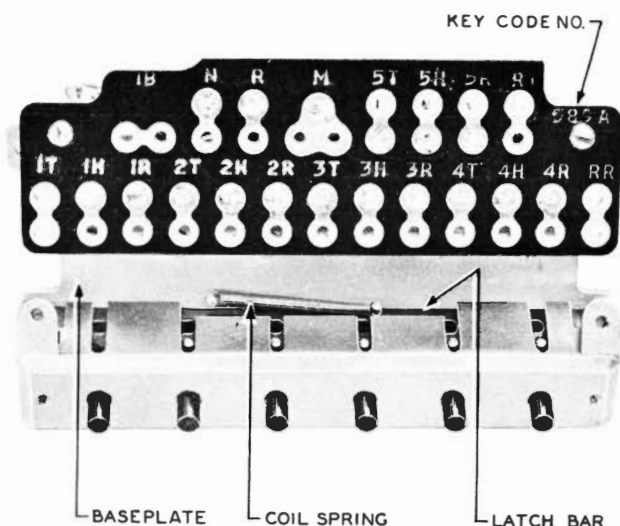

Fig. 5 - 589-Type Key, Top View
6.01 Field maintenance of these keys (Fig. 5 through 9) consists of: